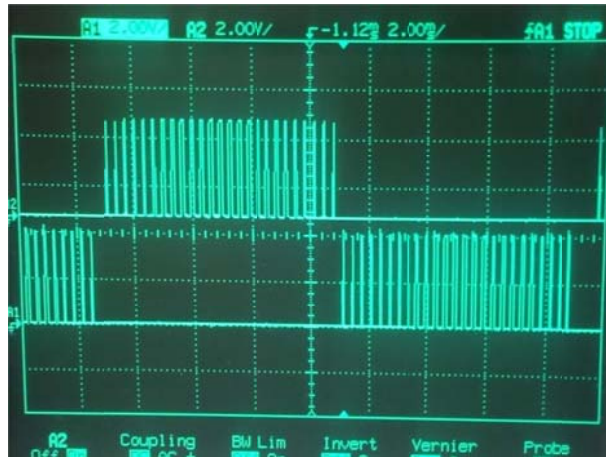

Figure 4 SPWM gating signals
5. Attach the following totem pole gate drivers to the outputs of your logic circuits. The outputs of the gate drivers should match Figure 4.